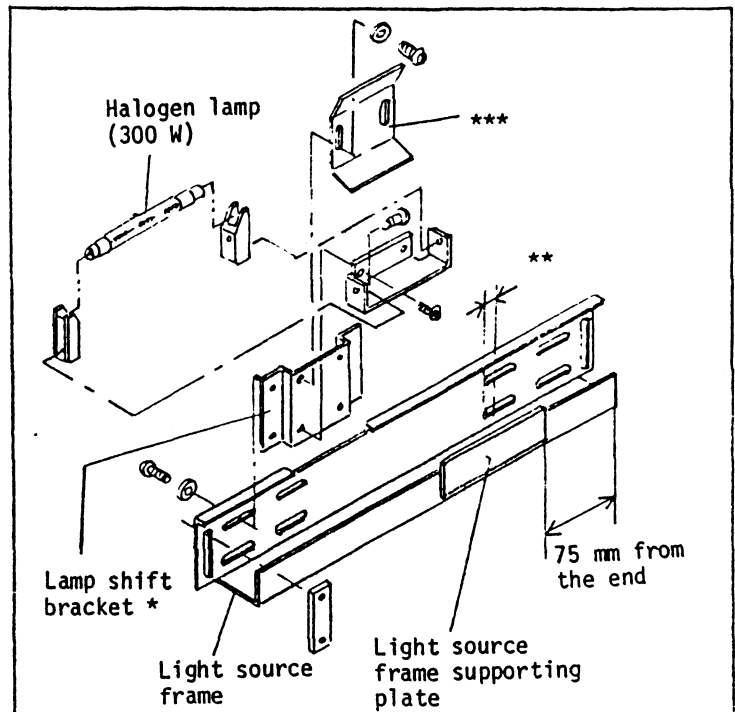

Fig.14
- (3) To provide a uniform distribution of illuminance, the light source is installed as shown in Fig.14 before shipment. (distribution: 80% or more)
- ° Set the lamp shift bracket (on both operation and non-operation sides) to the center of the left long holes of the light source frame. (Fig.14 *)
- ° Set the lamp shift bracket (on both operation and non-operation sides) to 10 mm point from the inner side of the light source frame right long holes. (Fig.14 **)
(3)-3 Install the reflector by setting it to the highest position in the long holes. (Fig.14 ***)
(4) If the distribution of illuminance is not uniform, refer to the following: